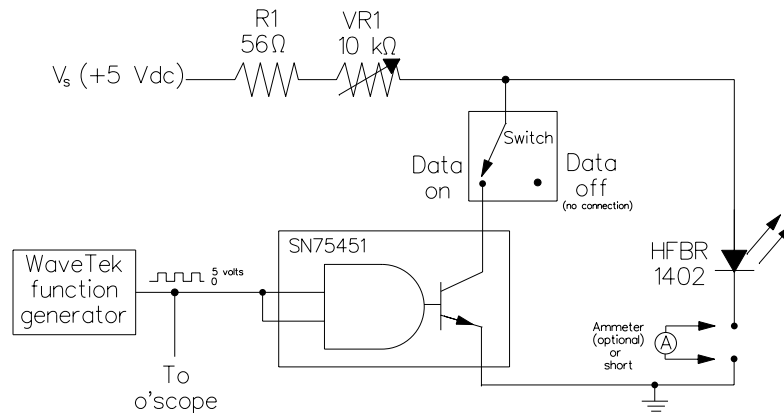

Figure 1: Digital transmitter circuit.
1. Figure 1 shows the digital transmitter circuit. The resistor R1 in series with the variable resistor VR1 controls the amount of current through the HFBR 1402 LED. Given the typical voltage drop and maximum forward current found in the HFBR 1402's specification sheet, calculate the value of the resistor R1 required to avoid exceeding the maximum current specified for the LED. (In this calculation, assume that VR1 has been adjusted to zero.) We will use a resistor with a value of  $56\ \Omega$  in this circuit.